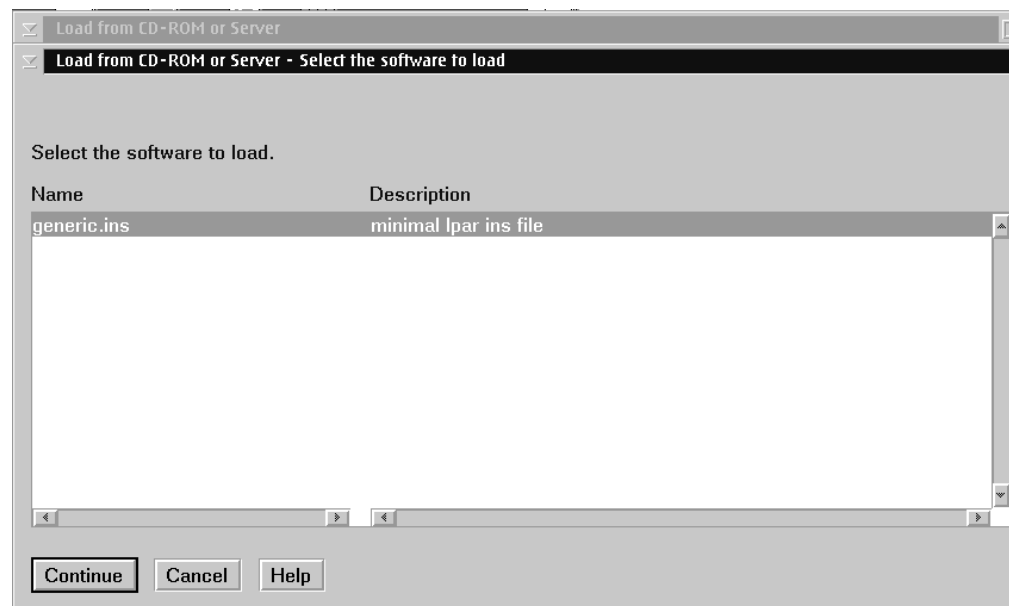

Figure 75. Select the software to load panel
7. Click **Continue** to display the “Select the software to load” panel (Figure 75).